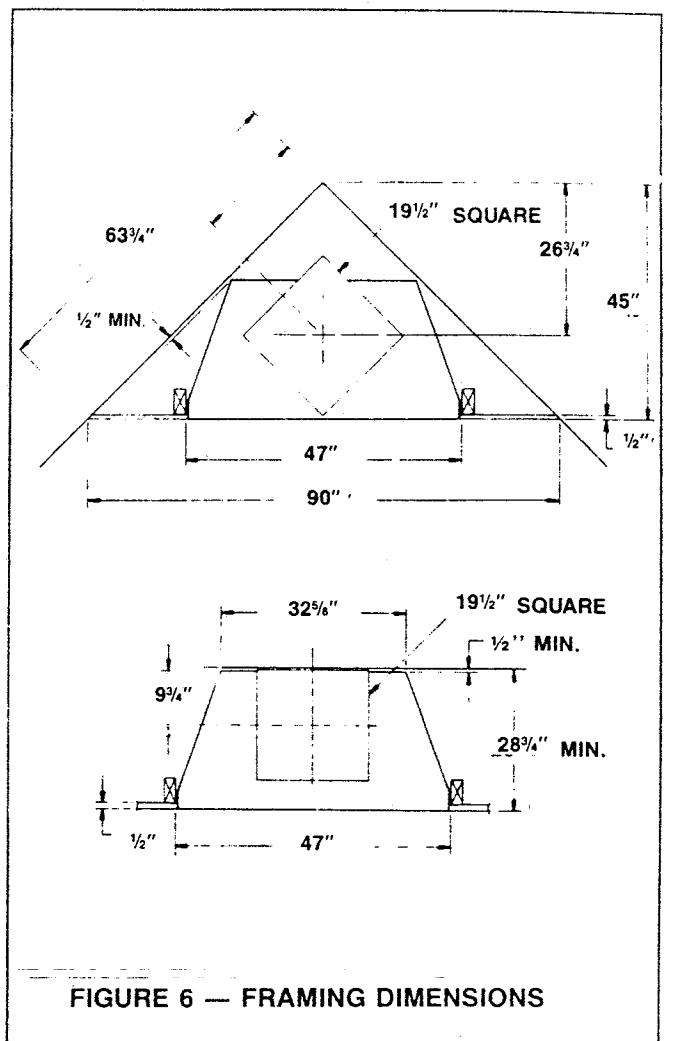

FIGURE 6 — FRAMING DIMENSIONS
**STEP 3:** On the ceiling directly above the center of the double-wall pipe, lay out a 19½-inch square hole (use plumb bob) and cut out for chimney exit (Figure 6).